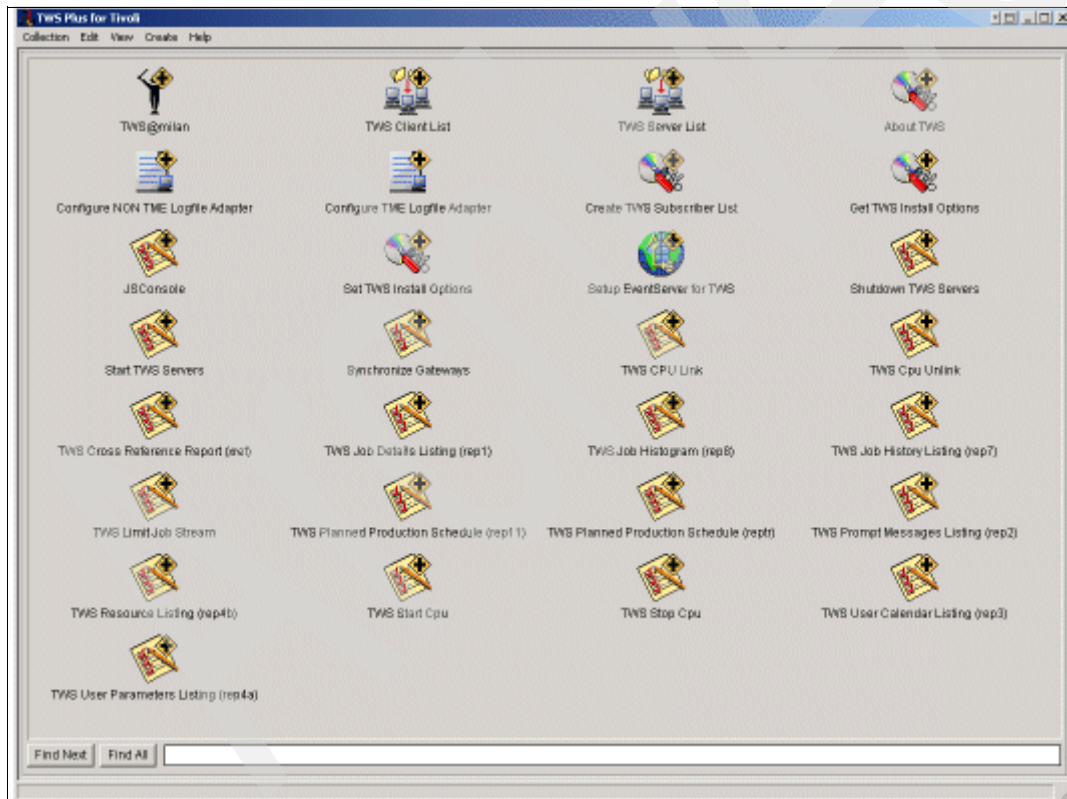

Figure 8-48 TWS Plus for Tivoli window
3. Double-click the TWS Plus for Tivoli icon. The TWS Plus for Tivoli window displays as shown in Figure 8-48.